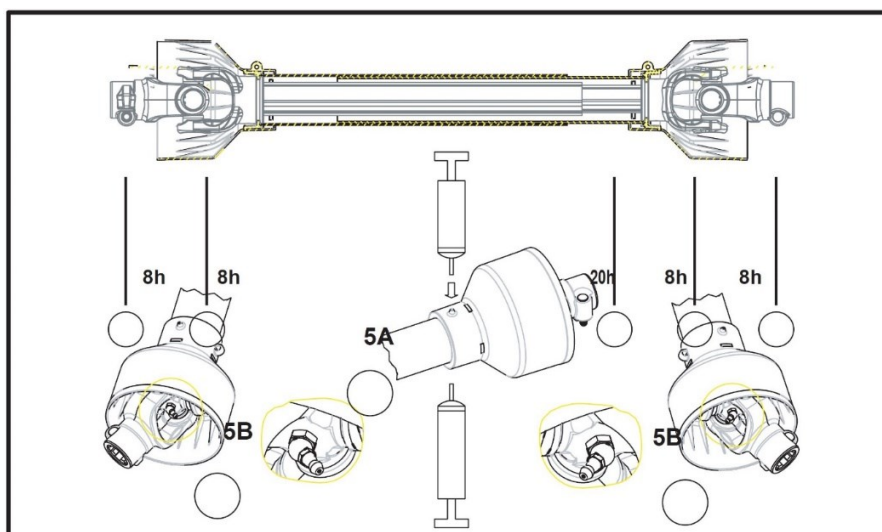

Figure 5
- To ensure the efficiency of the cardan joint, the shaft should be greased in the positions shown in Fig. 5 following the prescribed and highlighted hour frequency.
- Use lithium grease of the L EP1 or L EP2 type. Use the hole in the cowling to grease the ring nuts of the guard (Fig. 5, pos. A) and the special greasers to grease the crosses (Fig. 5, pos. B).